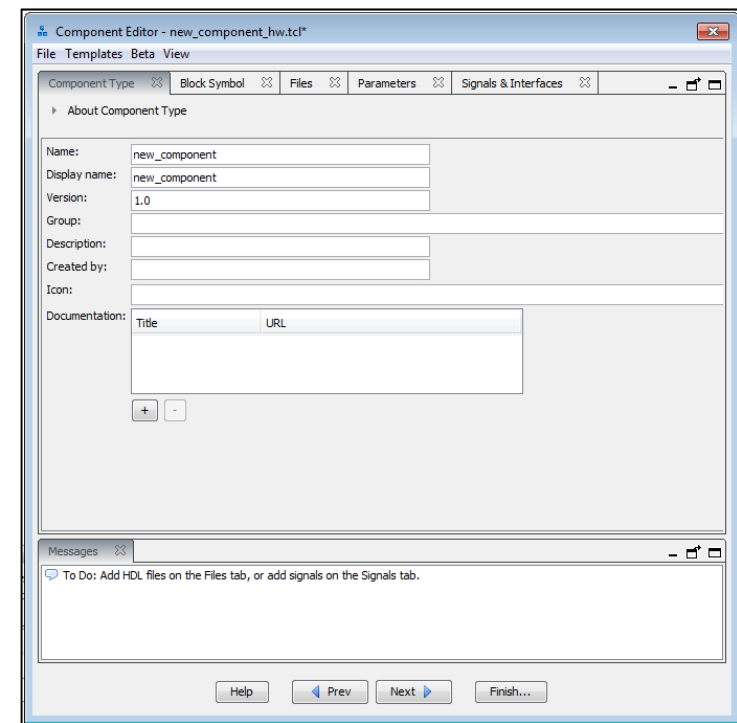

Figure 16 – QSYS Component Editor Dialog
- The component editor appears as illustrated in Figure 16.